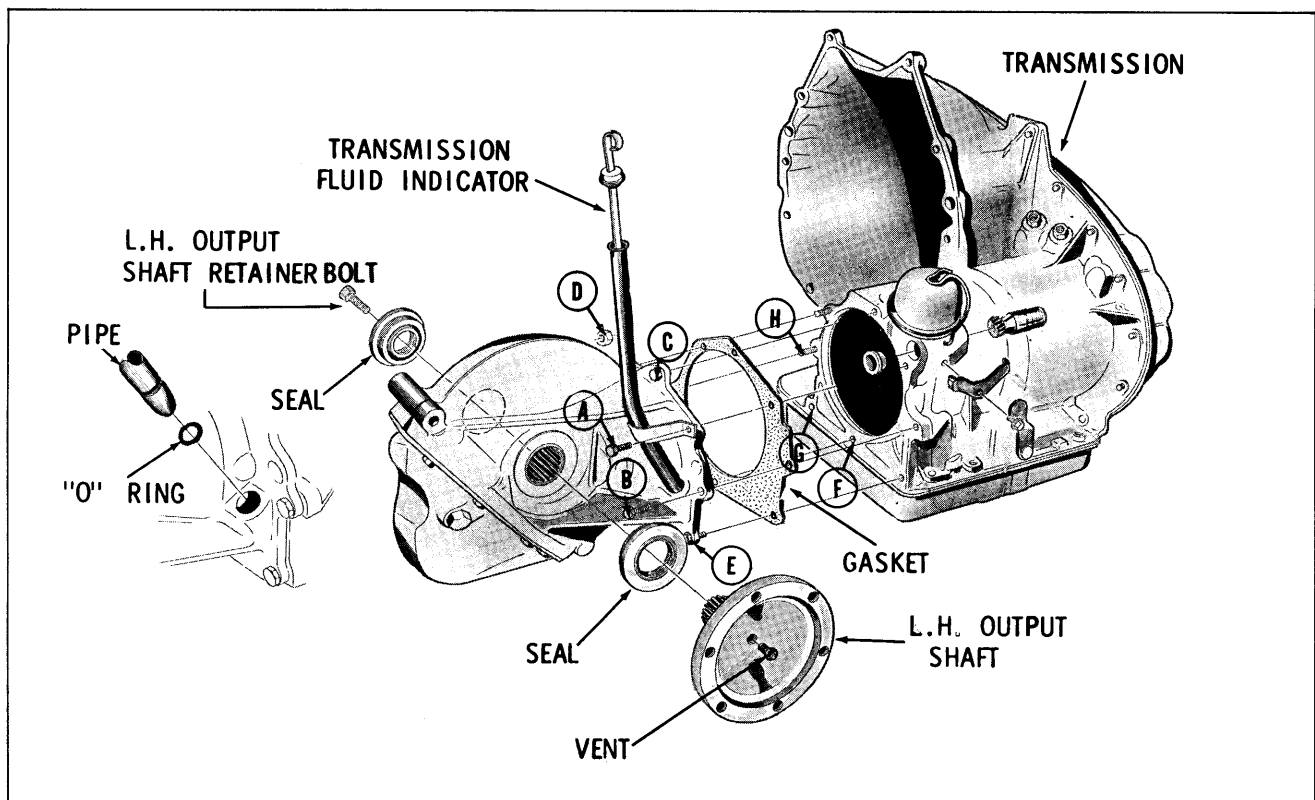

Fig. 3EC-11 Final Drive Attachment
8. Remove bolt "X" and loosen bolts "Y" and "Z". (Fig. 3EC-14)